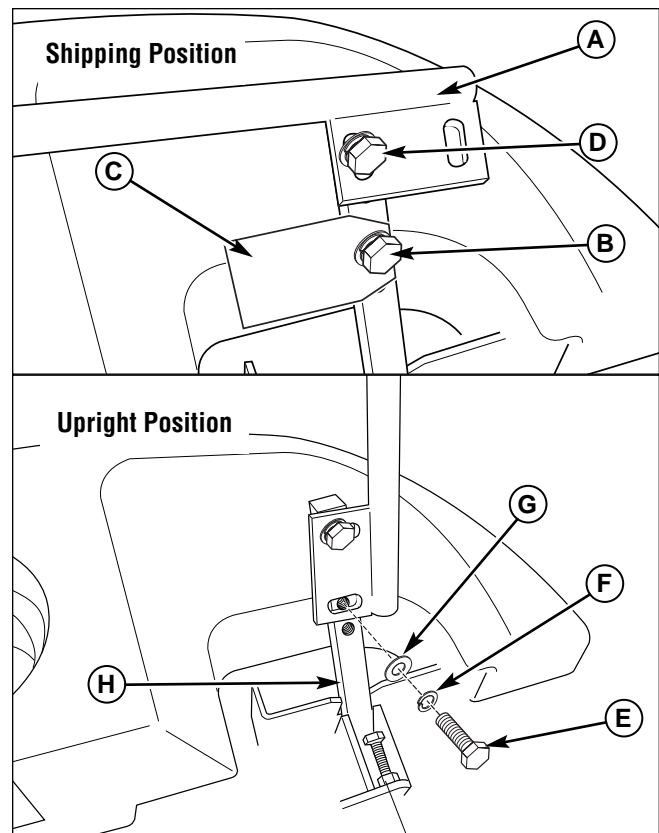

Figure 3. Install Control Levers (Left Side Shown)
The ground speed / steering control levers (A, Figure 3) must be moved to the upright position before attempting to operate the machine.
1. Remove the bottom mounting hardware (B). Discard the manilla tag (C).
2. Loosen the upper mounting hardware (D).
3. Position the ground speed / steering control levers in the upright position. See Figure 3.
4. Loosely install the 5/16-18 X 1" bolt (E), 5/16" lock washer (F), and 5/16" flat washer (G) through the ground speed / steering control lever into the control lever base (H) as shown in Figure 3.